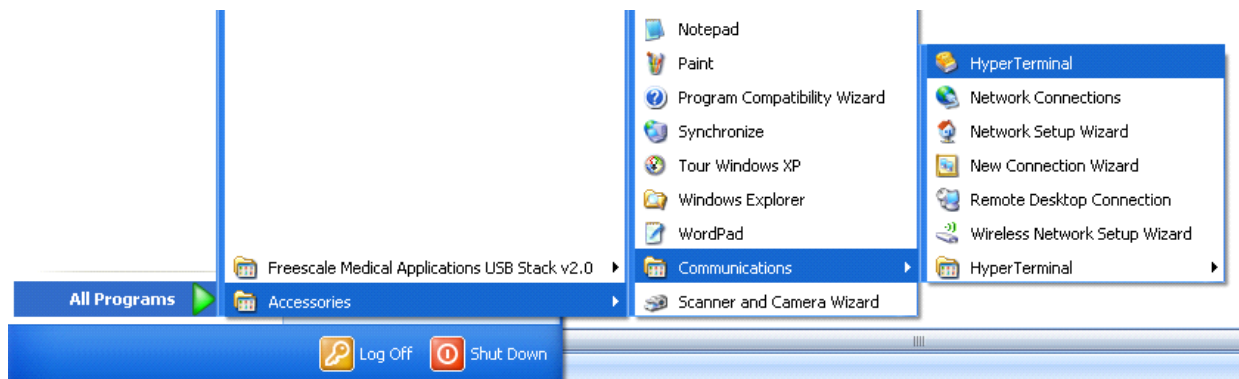

Figure A-9. Launch HyperTerminal Application
- Open HyperTerminal applications as shown in Figure A-9